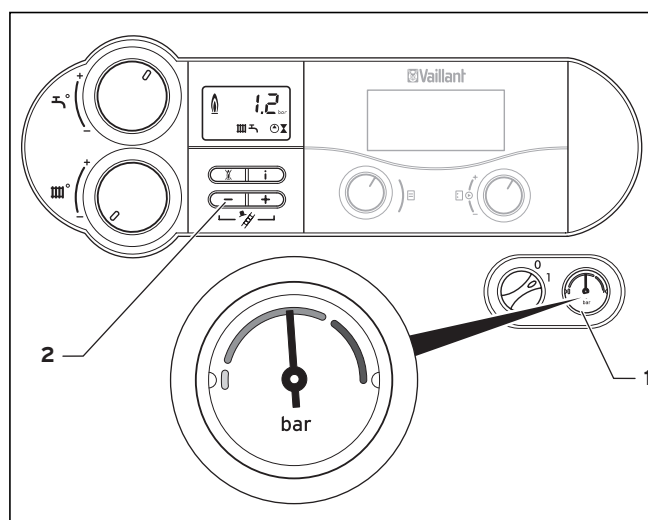

Fig. 6.1 Check the filling pressure of the heating system
For the heating installation to work properly the indicator on the pressure gauge (1) must be in the upper half of the dark grey area when the system is cold (see Fig. 6.1). This corresponds to a filling pressure between 1.0 and 2.0 bar.